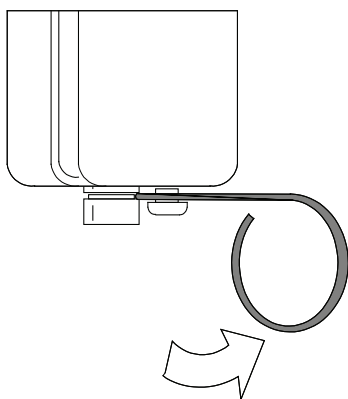

Figure 11 Uncovering the hole for the detector fitting
- 3 Press the wire spring lever at the bottom of the cup to the right to uncover the hole. (See Figure 11.)